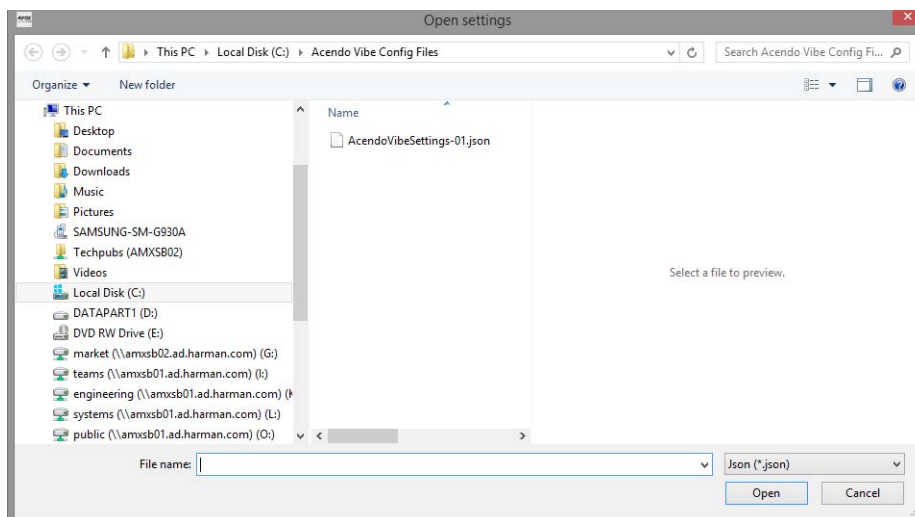

FIG. 39 Open Settings dialog
2. This selection invokes the *Open Settings* dialog (FIG. 39):